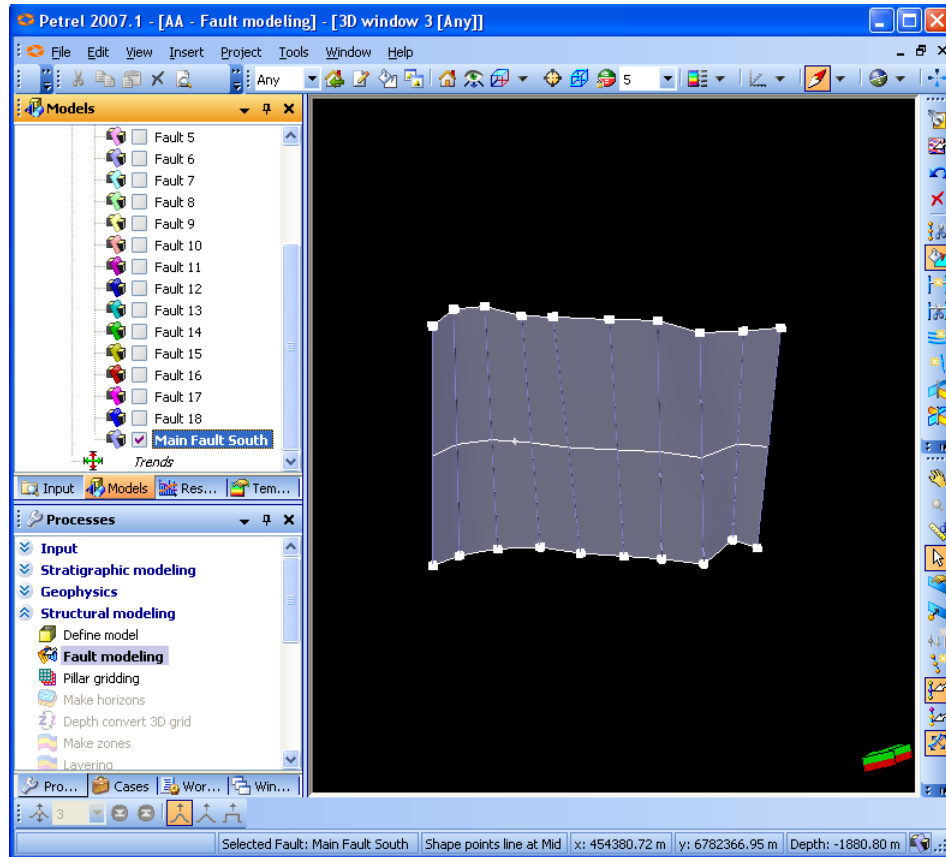

Fig. 11.33: A new fault under the Fault Model folder after the conversion process displayed in a 3D window
- c. Note the new fault in the 3D window and under the Fault Model folder in the model (in the Models Pane). See Fig. 11.33.